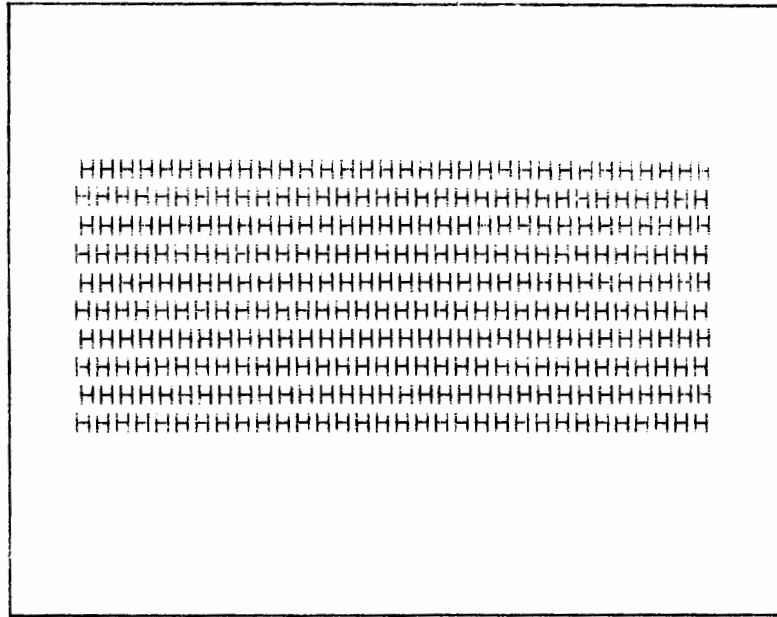

Figure 6-4. Printed Lines Not Correctly Aligned Vertically
**After doing this, check the printout for a vertical misalignment. (See figure 6-4.) If printed lines are not correctly aligned, remove the jumper wire (W37) from the printer PCA if installed, or install one if not.
Note: If any part of the print-head drive mechanism--such as the print-head motor, drive belt, or the set-screw in the coupling--is adjusted or replaced, check the printout for a vertical misalignment after setting the print-head home position. (See figure 6-4.) If printed lines are not now correctly aligned, remove the jumper wire (W37) from the printer PCA if installed, or install one if not. (W37 is located near pins 1 and 40 of the printer controller, U5.)
Note: If adjusting the print-head drive belt does not correct a vertical misalignment between printed lines (see figure 6-4), remove the jumper wire (W37) from the printer PCA if installed, or install one if not. (W37 is located near pins 1 and 40 of the printer controller, U5.)
Note: In step e, the belt will be adjusted until it is too tight; in step f, the belt will be adjusted until it is too loose. In both conditions, there will be an offset between the characters on one line and the characters on the next. (See figure 6-4.) However, if the belt is too loose, it will be visibly slack near the right pulley while the print head is moving from right to left. When the belt is adjusted to the proper tension, the offset from line to line should be no greater than $2/3$ the width of a printed dot.